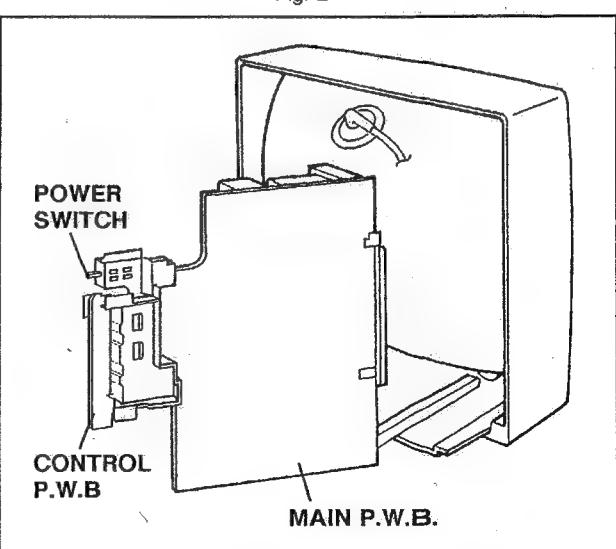

Fig. 4
* As shown in Fig. 4, set the removed chassis upright.